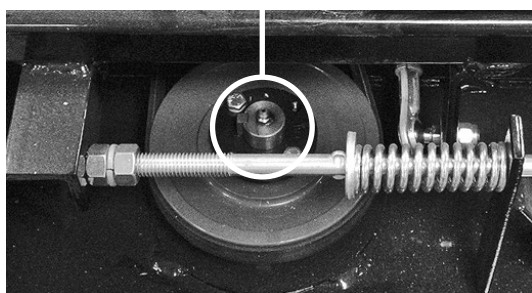

Figure 11
4. Using Lithium Grease, lubricate the Blade Spindles (**Figure 11**).